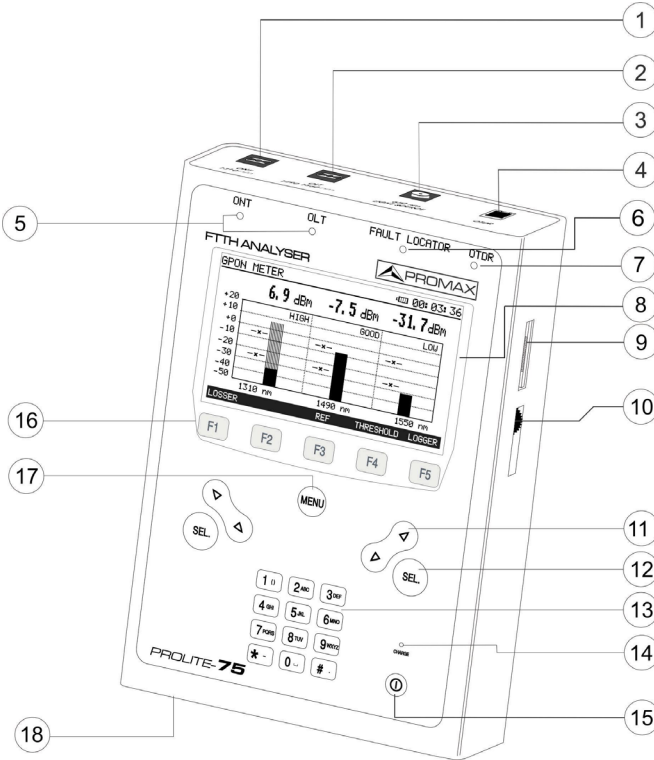

Figure 3.- Front panel.
- 1) **Stopped Instrument:** When connecting the external power it will start a rapid charging cycle, whose duration will depend on the battery status. It will take three hours for a discharged battery. The charging indicator on the front panel (see Figure 3.- [14]) will remain lit in amber colour during this period. At the end of charging and in full charge, the indicator will be green.
LCD adjustment contrast is done via the dial (see Figure 3.- [10]) located at the right side panel of the instrument.